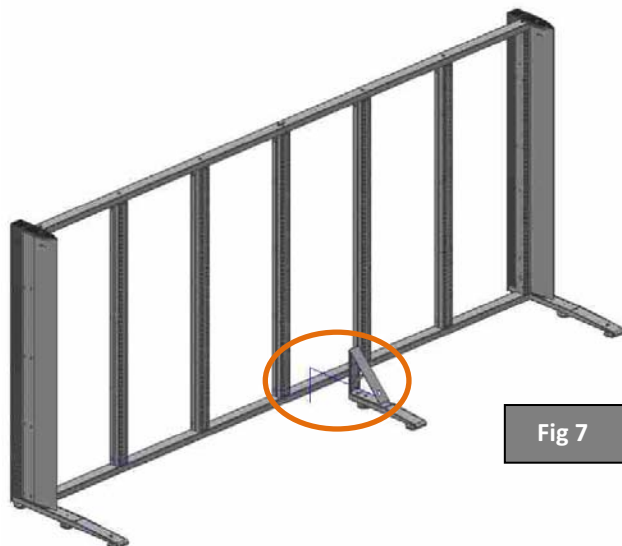

Fig 7
STEP 5 – Position the **frame joint foot** on the already mounted structure (**frames + sides**) in a vertical position, i.e. standing (Fig.7).